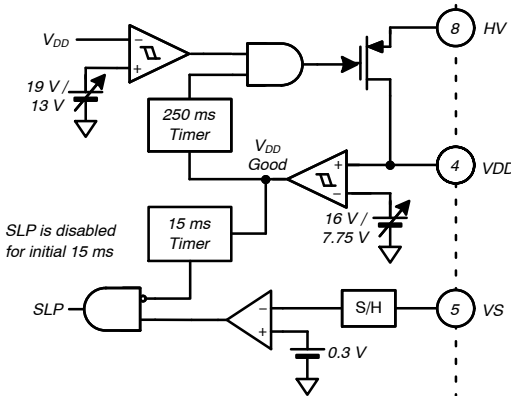
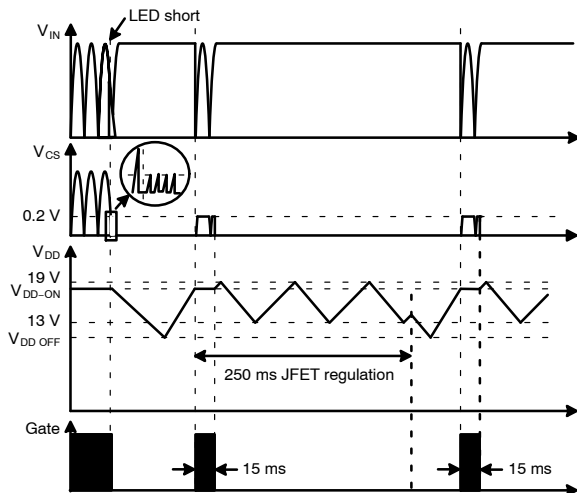

Figure 22. Internal SLP Block
Figure 23. Waveforms in Short-LED Condition
In case of a short-LED condition, the secondary diode is stressed by high current. When  $V_S$  voltage is lower than 0.3 V due to a short-LED condition, the cycle-by-cycle current limit level changes to 0.2 V from 1.0 V and SLP is triggered if the  $V_S$  voltage is less than 0.3 V for four (4) consecutive switching cycles. Figure 22 and Figure 23 show the SLP block and operational waveforms during LED-short condition. To set enough auto-restart time for system safety under protection conditions,  $V_{DD}$  is maintained between 13 V and 19 V, which is higher than UVLO, for 250 ms after  $V_{DD-ON}$ . SLP is disabled for an initial 15 ms to ensure successful startup in normal LED condition.